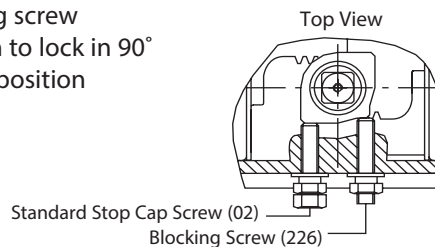

Figure 21
- A. Before inserting the blocking screw (226) or the standard screw (02) into the actuator body, check what stop position is required. If the stop position is fully close (0°) or fully open (90°), see **(Figure 21)**. Note, when the stop screws are inserted into the actuator body, the actuator must be at the desired position.
- B. Insert the blocking screw (226) and the standard screw (02) into the actuator body until the desired lock position is achieved then tighten the special nut (228).